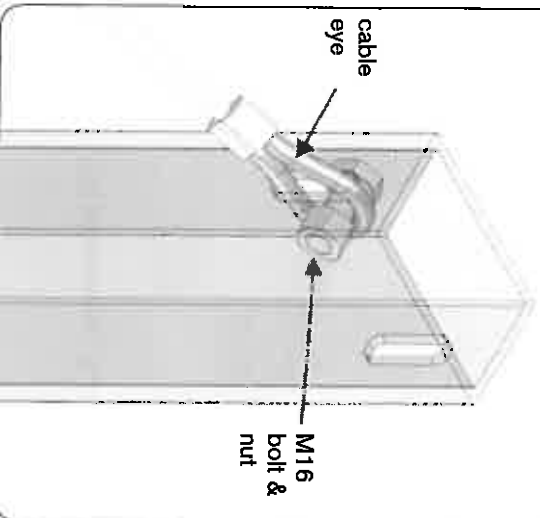

Fig. 10 Early Version cable-gin pole assembly details
- "A" and "B" model gin poles – using a 16 mm nut and bolt connect one cable end to the gin pole as shown in **Fig 10**. Connect the other end of the cable to the welded tab on the tower using one of the supplied shackles.
- "A" model gin pole only – connect the second cable to the gin pole using a 16 mm nut and bolt as depicted in **Fig 10**.